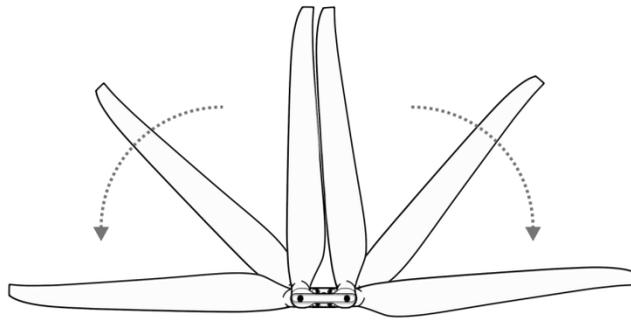

Figure 1-34 Unfold the Propellers
**Step 4:** Make sure the clamping component is tightened, as shown in Figure 1-34.